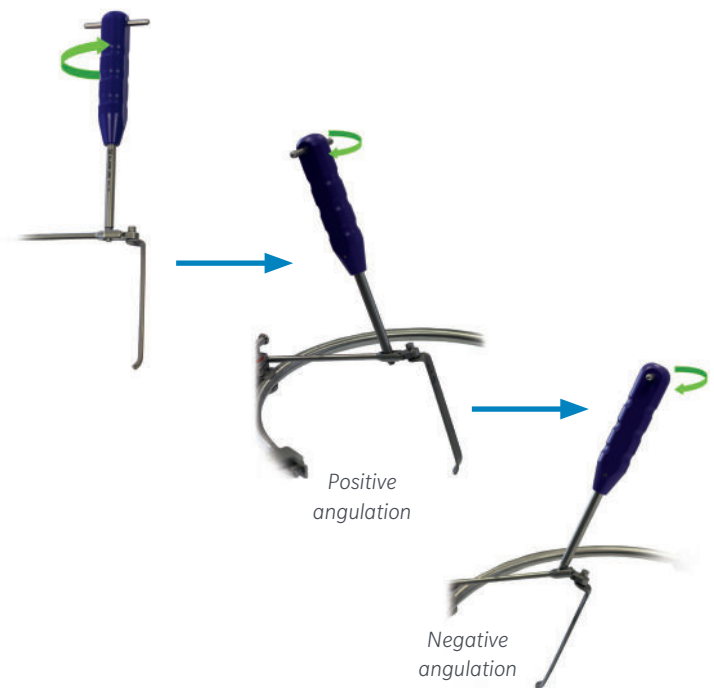

Figure 13
- To angulate the retractor blades use the hex wrench to loosen the swivel mechanism on the blade holder. Adjust the position of the blade by manipulating it by hand or using the hex wrench. Positive or negative angulation can be applied on retractor blades (Figure 13).